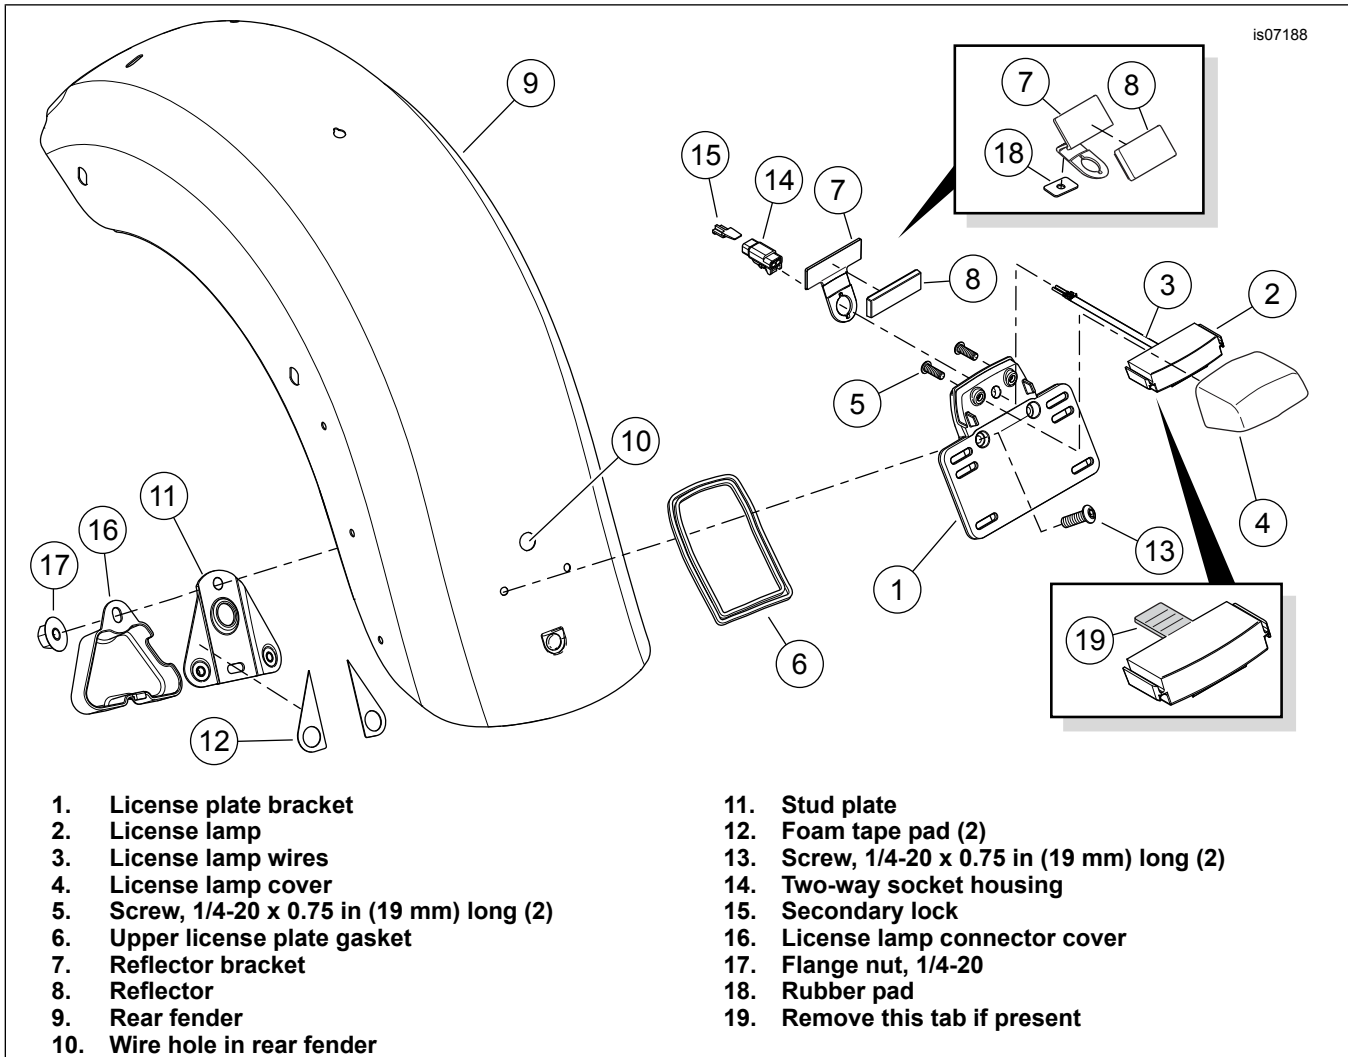

Figure 4. License-Plate Lamp and Bracket Installation
Some license lamps have a tab (see Figure 4 inset, Item 19) that will prevent installation. Remove the tab before proceeding.
1. See Figure 4. Assemble the license lamp (2) and cover (4) to the license plate bracket (1). Tighten the screws (5) to 6.4–7.8 N·m (57–69 in-lbs).
2. Get the stud plate (11) and two foam tape pads (12) from the kit. Remove the liner from the adhesive backing on one side of one pad. Carefully position the pad to a flange of the stud plate, on the side opposite the nuts. Press firmly into place. Repeat with the second pad on the remaining flange. Remove the liner from the exposed side of the pads.
3. Get the correct reflector (8) and bracket (7) from the kit. Remove the liner from the adhesive backing of the reflector. Install to the bracket as shown.
HDI models using reflector bracket 60921-09 (see Figure 4): Remove the liner from the adhesive backing of the 30 x 19 x 1.6 mm (x in) rubber pad (18). Position the pad to the back of the reflector bracket (7), just above the hole as shown. Press firmly into place.
4. While holding the gasket (6) in place, feed the lamp wires (3) through the license bracket (1), reflector bracket (7), and the hole (10) in the fender (9).
5. Hold the stud plate (11) in place on the underside of the fender. Secure the license plate bracket (1) to the stud plate with screws (13). Tighten the screws securely.
6. Insert the license lamp wires into the two-way socket housing (14) per the service manual. Secure with the secondary lock (15). Plug the two-way pin housing on the rear harness into the license lamp socket [45B].
7. Install the license lamp connector cover (16). Secure with a flange nut (17). Tighten the nut to 3.4–5.1 N·m (30–45 in-lbs).